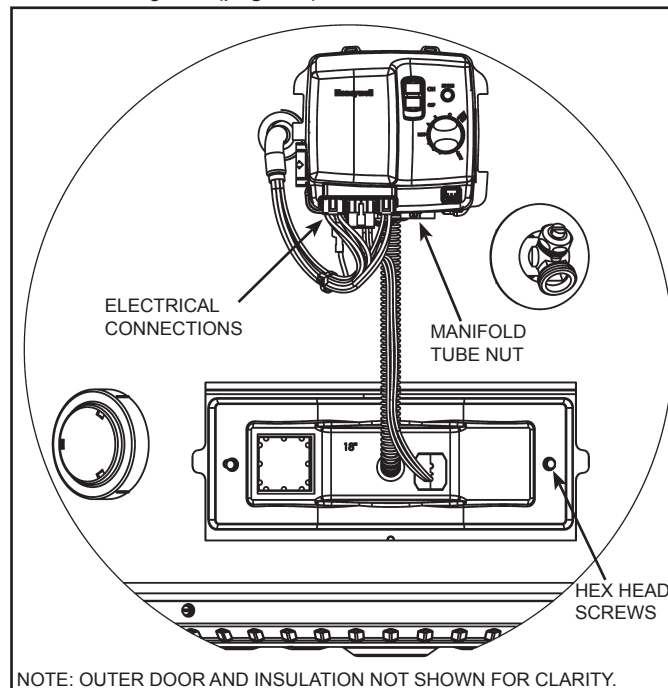
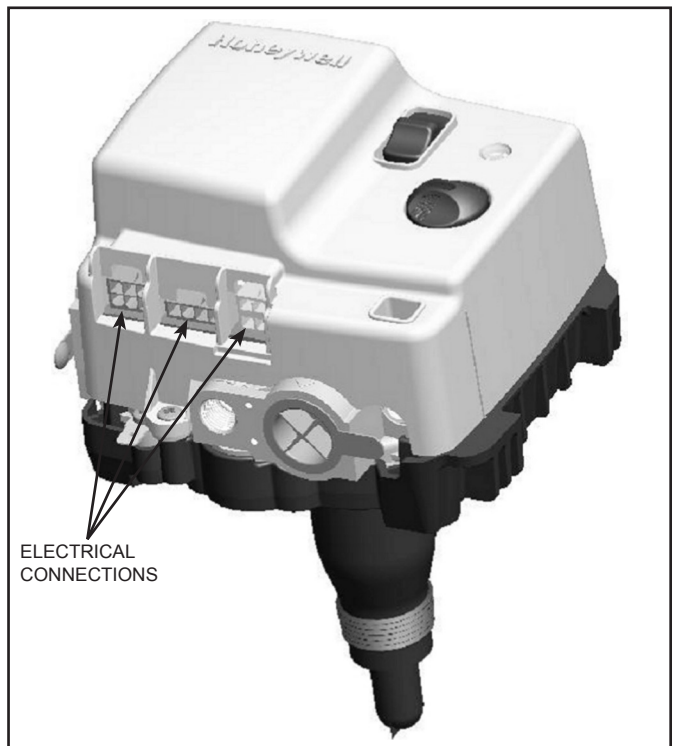

Figure 7. Electrical Connections at the Bottom of the Gas Valve
Figure 10. Electrical Connections on the Gas Valve
5. Unplug all the electrical connections from the bottom of the gas control valve/thermostat. See *Figure 7*.
6. Using a 3/4" open end wrench remove the manifold tube from the gas control valve/thermostat (turning counter-clockwise for natural gas, clockwise for LP). Grasp the manifold tube and push down slightly to free the manifold tube from the gas control valve/thermostat. See *Figure 7*.
8. Use a 1/4" nut-driver or 1/4" socket & ratchet to loosen the 2 hex head screws on the inner door so the inner door/manifold/burner assembly can be removed. See *Figure 7*.
2. After confirming no materials of any type are between door gasket and combustion chamber shield, align the screws on the inner door with the screw holes on the combustion chamber and tighten with 1/4" nut-driver or 1/4" socket & ratchet. See *Figure 7*.
**Note:** Do Not apply any thread sealant at this connection). To prevent any cross threading the manifold tube should be started by hand (turn clockwise for natural gas, counter-clockwise for LP). Upon tightening with the fingers and confirming it has not been cross threaded, tighten nut with a 3/4" open end wrench. See **Figure 7** (page 8).
5. Reconnect all the electrical connections to the bottom of the gas control valve/thermostat, gently pushing each connector up until it snaps into place. See **Figure 7** and **Figure 10**.
- Reconnect all the electrical connections to the bottom of the gas control valve/thermostat, gently pushing each connector up until it snaps into place. See **Figure 10** and **Figure 11** (page 12).
- Reconnect all the electrical connections to the bottom of the gas control valve/thermostat, gently pushing each connector up until it snaps into place. See **Figure 10** (page 10) and **Figure 15** (page 14).